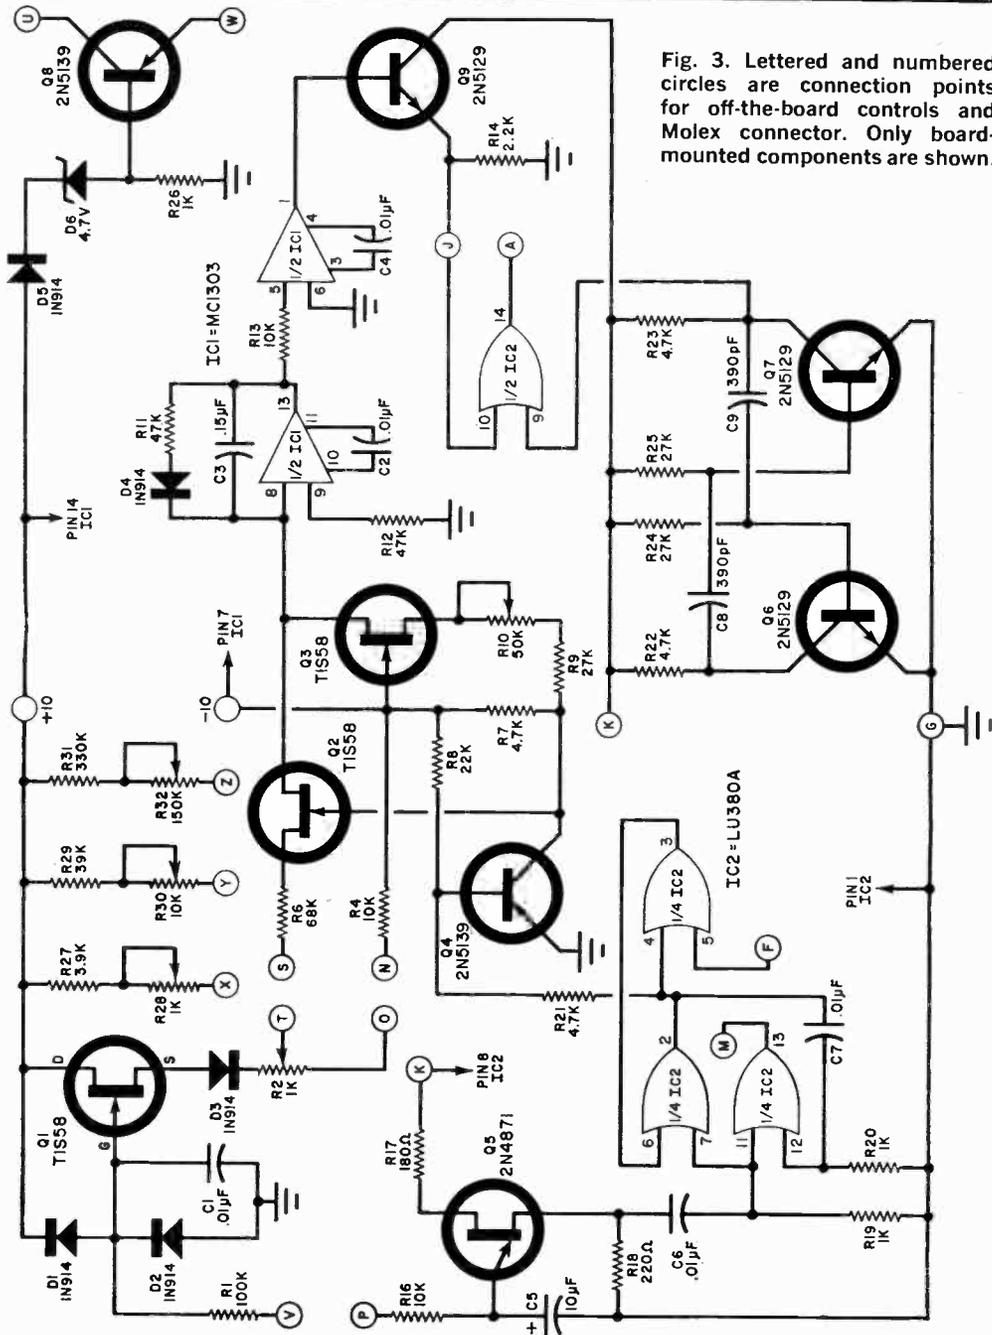

Fig. 3. Lettered and numbered circles are connection points for off-the-board controls and Molex connector. Only board-mounted components are shown.
**Circuit Operation.** In the DVOM Module circuit shown in Figs. 3 and 4, the input voltage is applied to range selector switch  $S1$  and attenuator network  $R33$ - $R36$ . If this voltage is greater than the basic 0-2-volt input range of the converter, it is reduced to this range by the attenuator resistors. The voltage obtained is then applied to  $Q1$  which acts as an impedance converter. This FET has a very high input impedance which makes possible the 10-megohm input impedance of the plug-in, and the low output impedance needed to drive the circuits which follow. Resistor  $R1$  and diodes  $D1$  and  $D2$  protect  $Q1$  from overloads that might occur if  $S1$  were not set to the proper range position and a high voltage were applied.